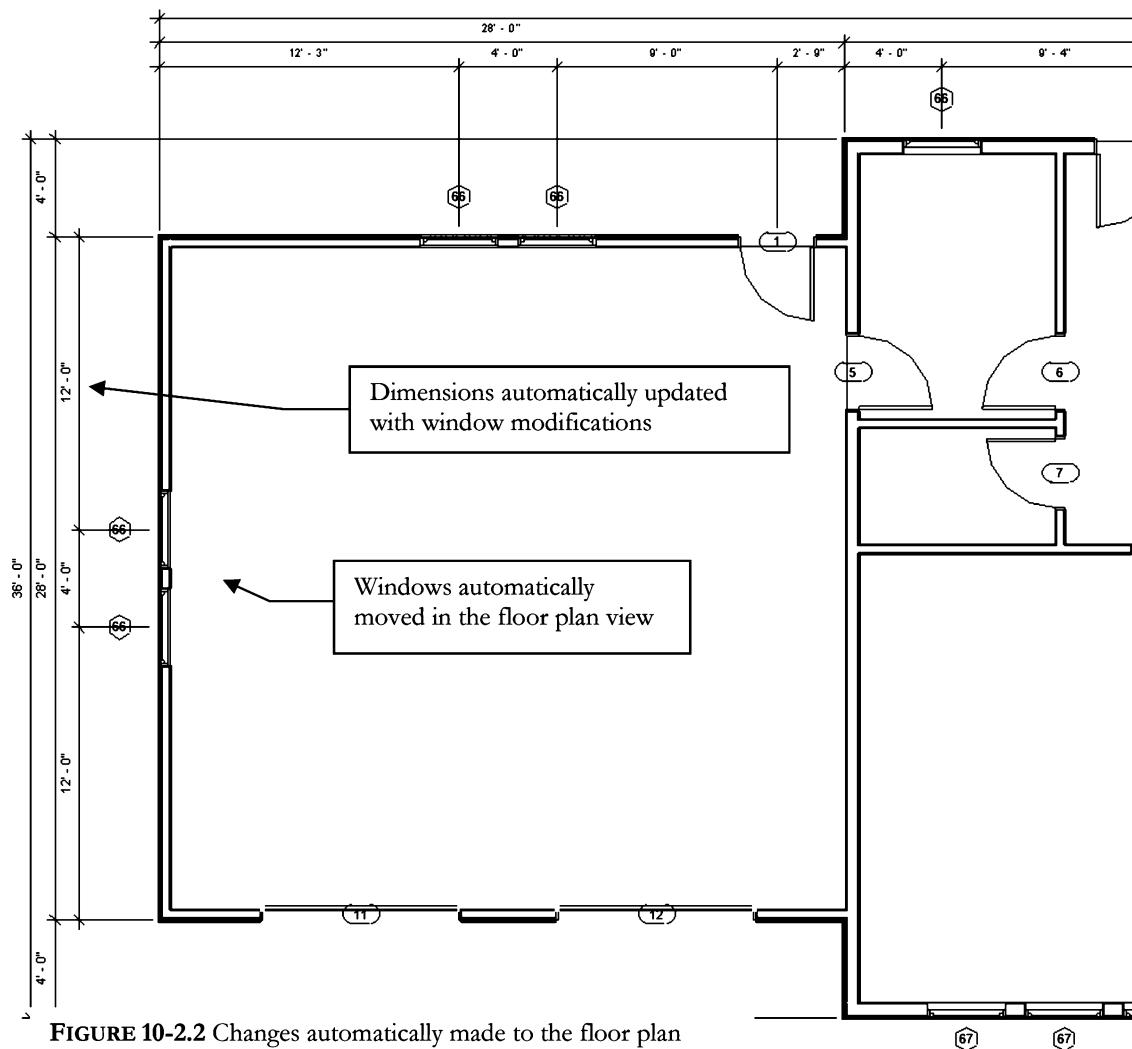
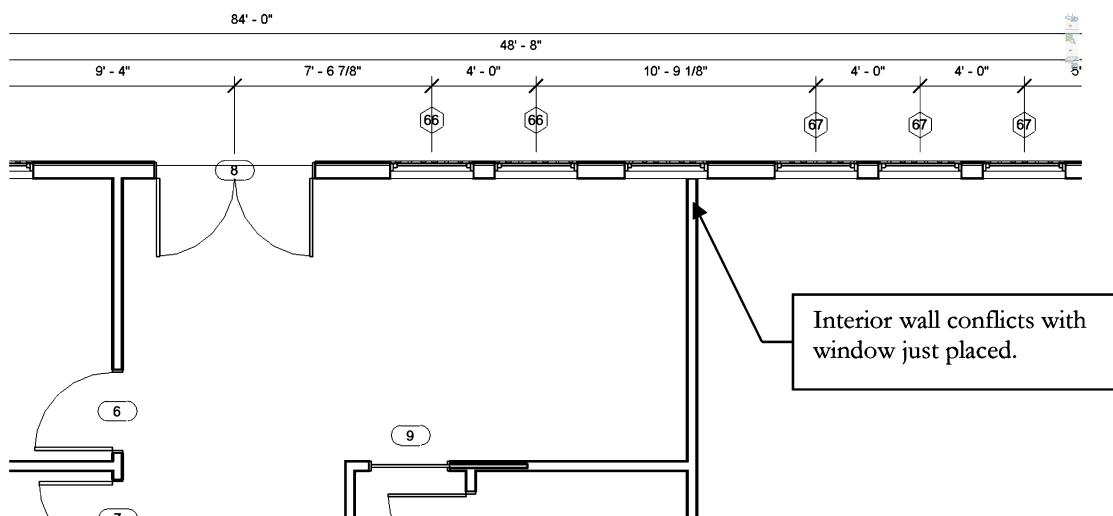

FIGURE 10-2.2 Changes automatically made to the floor plan
FIGURE 10-2.5 First Floor – kitchen area
6. Switch to the *First Floor Plan* view and zoom in on the garage area (Figure 10-2.2). Adjust the window position per the information mentioned below.
- Switch to the *First Floor* plan view to see the problem (Figure 10-2.5).
Why did the window location dimensions update in Figure 10-2.2 and not in Figure 10-2.5? The first had dimensions associated with the windows and the latter did not. When you dimension something in Revit, the witness lines “remember” what they are dimensioning to and move with that element. Also, notice how the window was tagged in elevation view, but not in plan view like the previously placed windows? The tag is only added in the view the element was placed in but can be manually tagged in any view (even multiple times).